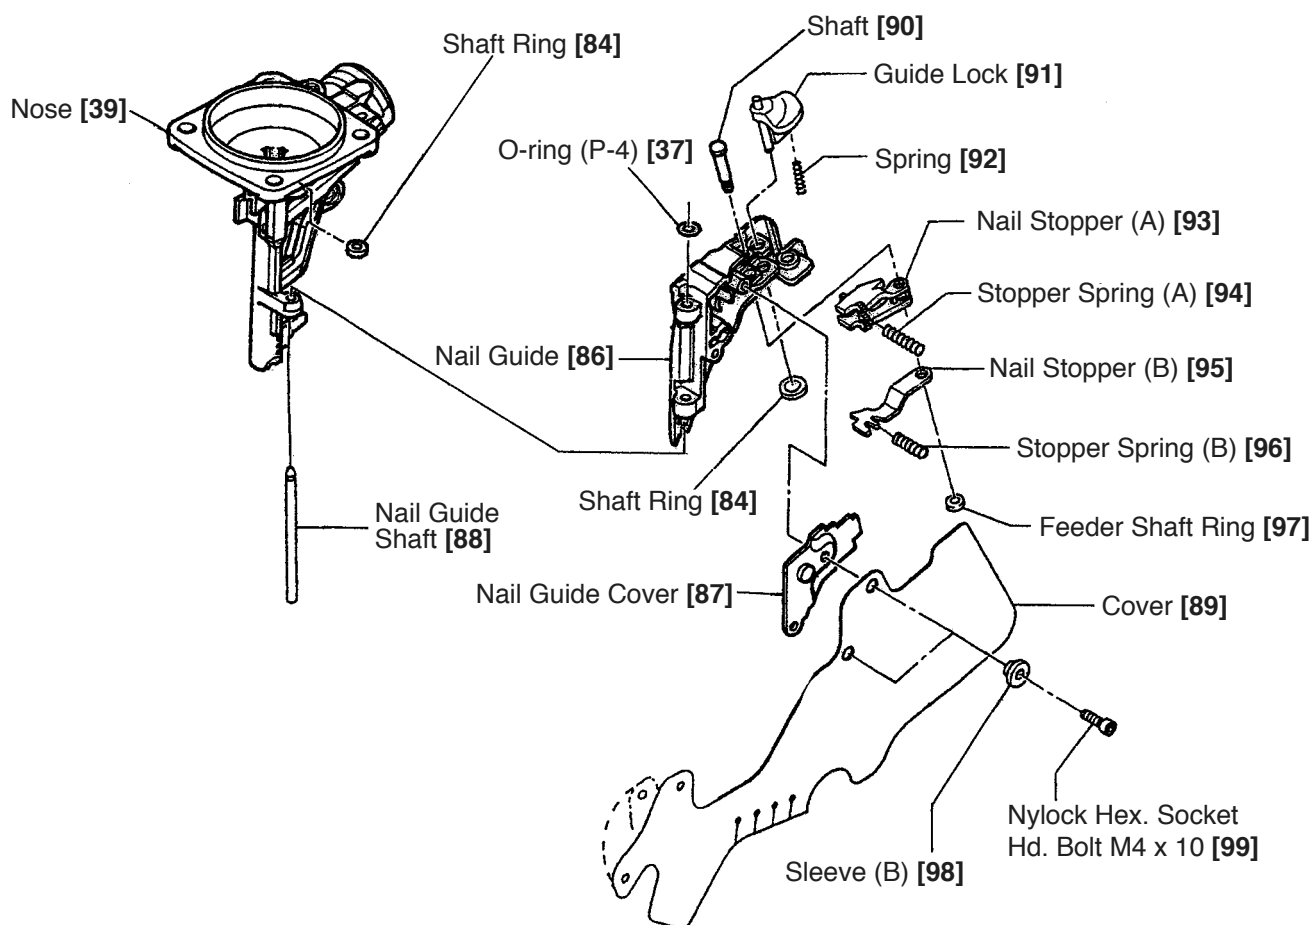

Fig. 33 Disassembly and reassembly of the nail guide, nail stopper (A) and nail stopper (B)
(4) Disassembly and reassembly of Nail Guide [86], Nail Stopper (A) [93], Nail Stopper (B) [95] and other parts (Fig. 33)